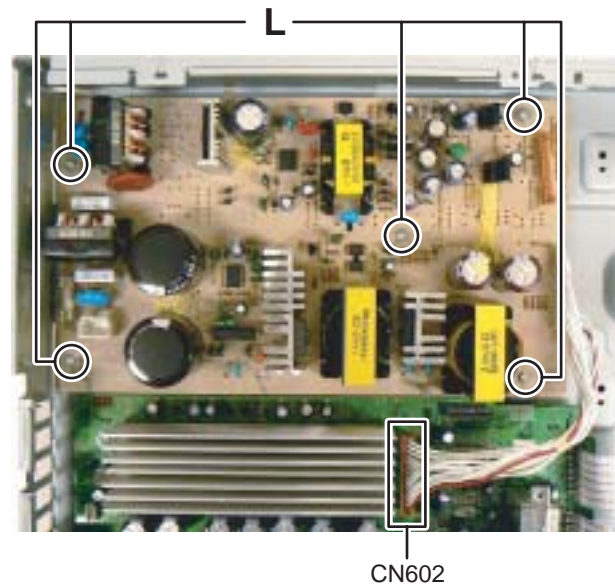

Fig.15
3.1.8 Removing the SMPS board (See Fig.15)